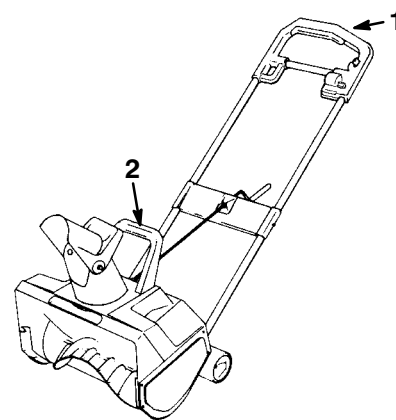

Figure 11
- When clearing steps or deep drifts, hold the snowthrower by the primary and secondary handles (Fig. 11) and use a swinging or sweeping motion.
- Shave down large banks of snow by placing the snowthrower on the bank. Lift the snowthrower by the primary and secondary handles only (Fig. 11). Let the weight of the snowthrower shave down the bank in a back-and-forth motion.